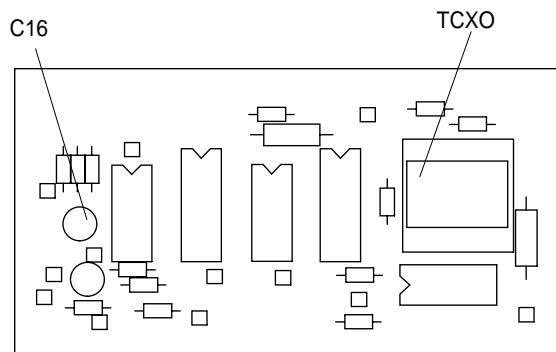
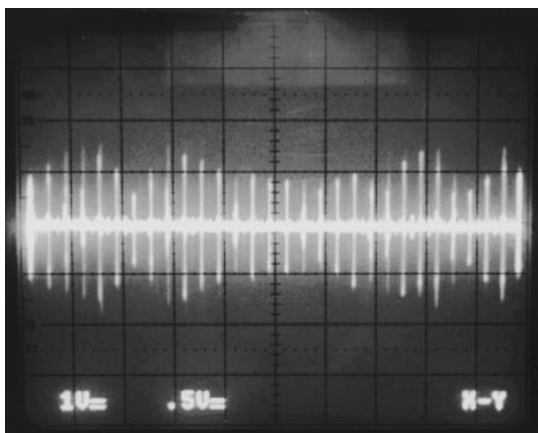

Figure 6-15. *Divider Module*
Figure 6-16. *Marker Reponse on Oscilloscope*
- Step 45.** Remove the cover from the Divider Module and adjust C16 (Figure 6-15) for an optimum marker response, as shown in Figure 6-16.)
- Step 54.** Connect a counter to the 25 MHz output from the divider module (Figure 6-15), and adjust the TCXO crystal for a counter reading of 25 MHz \pm 5Hz.